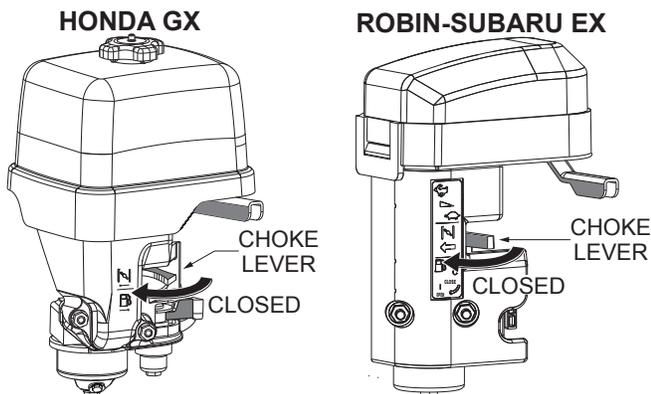

Figure 30. Choke Lever (CLOSED)
4. If starting a cold engine, place the choke lever in the **CLOSED** position (Figure 30).
7. If the engine has started, slowly return the choke lever to the **CLOSED** position (Figure 30). If the engine has not started, repeat steps 1 through 6.